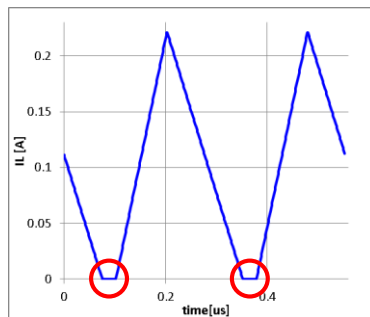

Figure 1
- PFM mode when the lower limit current of the IL which flows into an inductor becomes 0A state (Figure 1)